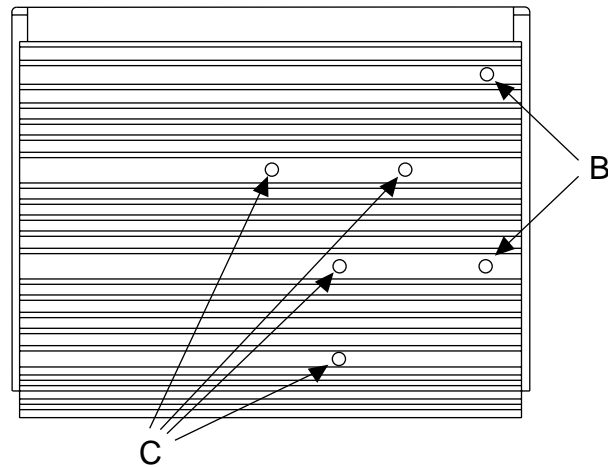

Figure 5-2. Cover and Drive Module Fixing Locations
- (c) Remove the two M3 x 10mm screws marked B which hold the cover to the heatsink as shown in Figure 5-2. The drive cover can now be gently pulled upwards from the unit.
- (d) Remove the four M3 x 10mm screws marked C which secure the drive module to the heatsink (see Figure 5-2). The drive module can now be removed from the heatsink.